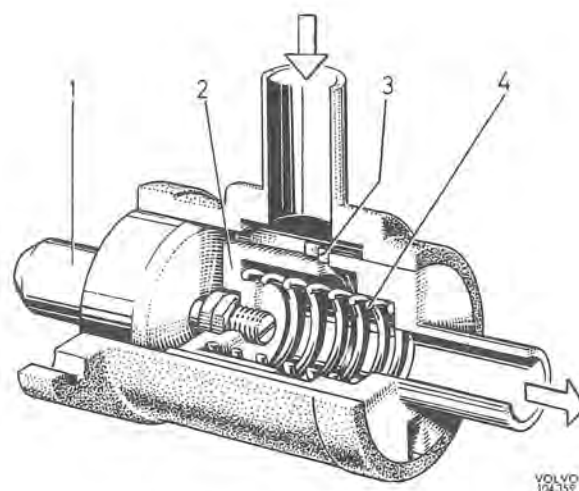

Fig. 2-117. Auxiliary air regulator
The auxiliary air regulator is located at the front end of the cylinder head and has its expanding element projecting into the coolant system, see Fig. 2-117.
The regulator operating range is from -25°C (-13°F), fully open, to $+60^{\circ}\text{C}$ (140°F), fully closed. At cold start, the auxiliary air regulator opens (how much will depend on the temperature) and admits additional air into the inlet duct. Gradually as the engine heats up, the regulator element (1, Fig. 2-117) expands and presses back the regulator (2) which, at 60°C (140°F), completely closes off the cross-sectional area of the auxiliary air pipe.